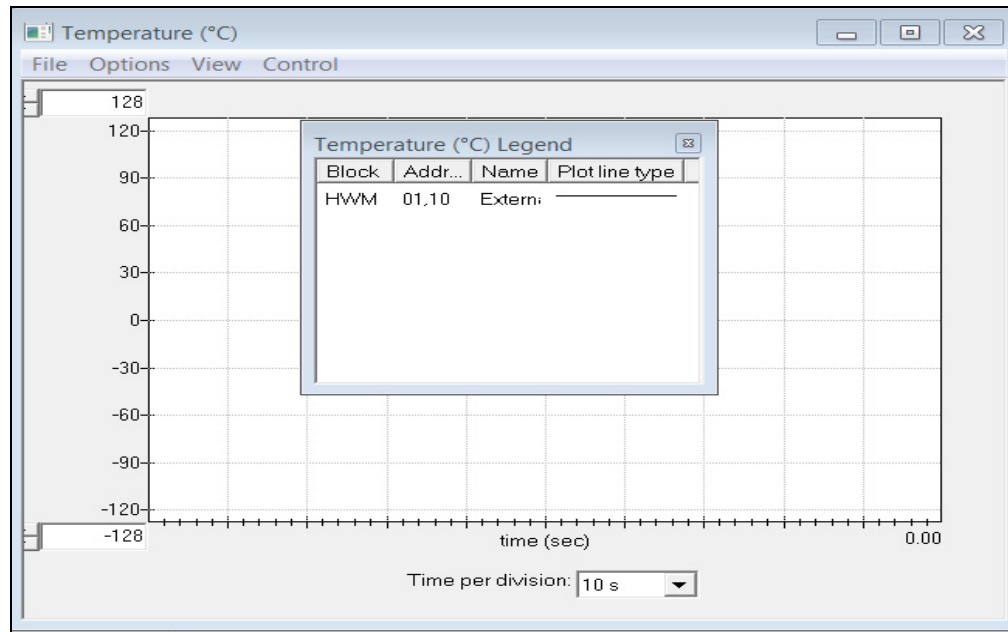

FIGURE 4-2: Register Plot - Temperature Window.
- Once the desired register is added to plot, a graphic plot window will appear with a legend on top, as shown in Figure 4-2. The two windows can be rearranged independently.